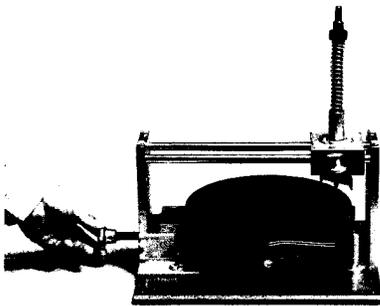

Figure 9 — Placing End Plate in Cutter
6.04 Back off clamp screw until end plate can be placed. End plate should lie on top of flanges of stop posts and clamp jaw guides. (Fig. 9).